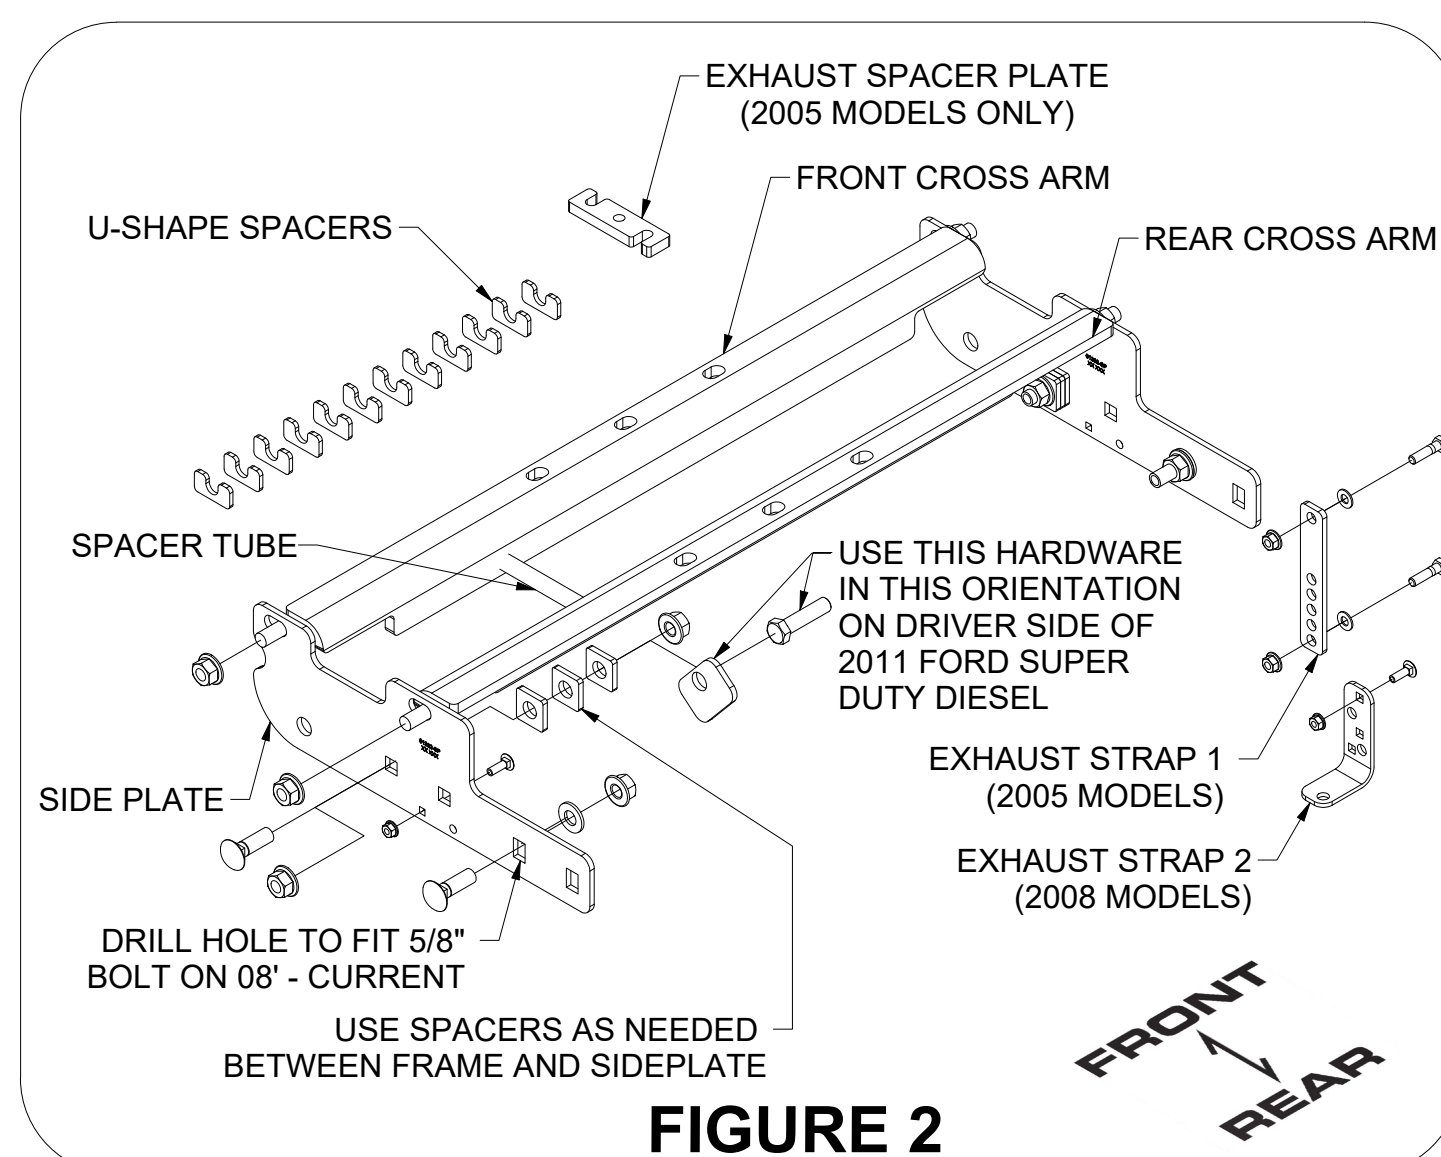

FIGURE 2
(Note: Make sure cross arms placed in the correct orientation, as shown in Figure 2.)
6. Hang the side plates from the 5/8" studs extending from the cross arms. Secure each plate with (2) 5/8" flange nuts provided. Finger tight only.
7. Align side plates with the 3/4" slot in the frame. Place the 5/8" carriage bolts through side plate, 1/4" spacers (use spacers as needed to fill the gap between the frame and sideplate), and frame as shown in **Figure 2**. Use a 5/8" flange nut to secure, finger tight only. At this time, place another 5/8" carriage bolt through the other hole in the frame and side plate or drill the hole to fit the 08' - current model trucks. Secure with a 5/8" flange nut and washer as shown. (Note: Hardware orientation is different on driver side of 2011 Ford Super Duty equipped with a diesel engine. See Figure 2.)